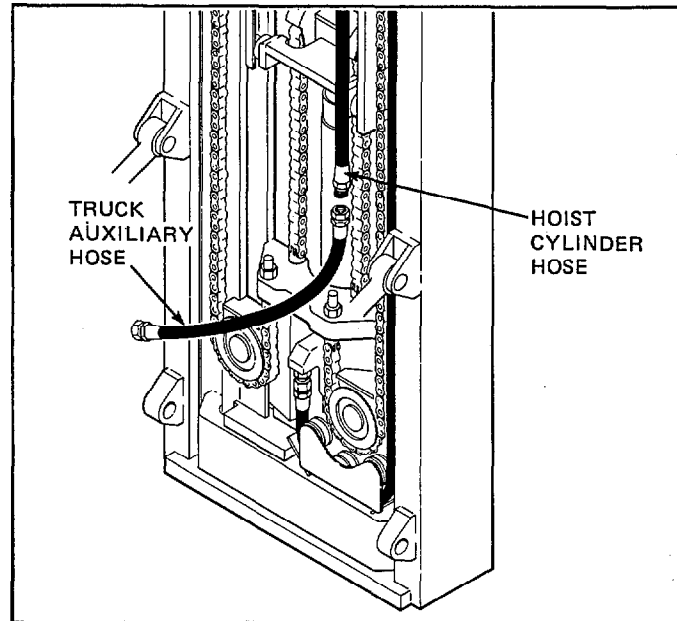

Figure 30. Rear View of Mast Assembly
3. Remove the truck auxiliary hose from the hoist cylinder hose. See Figure 30. Be prepared to collect oil. Cap the cylinder hose and plug the truck auxiliary hose.